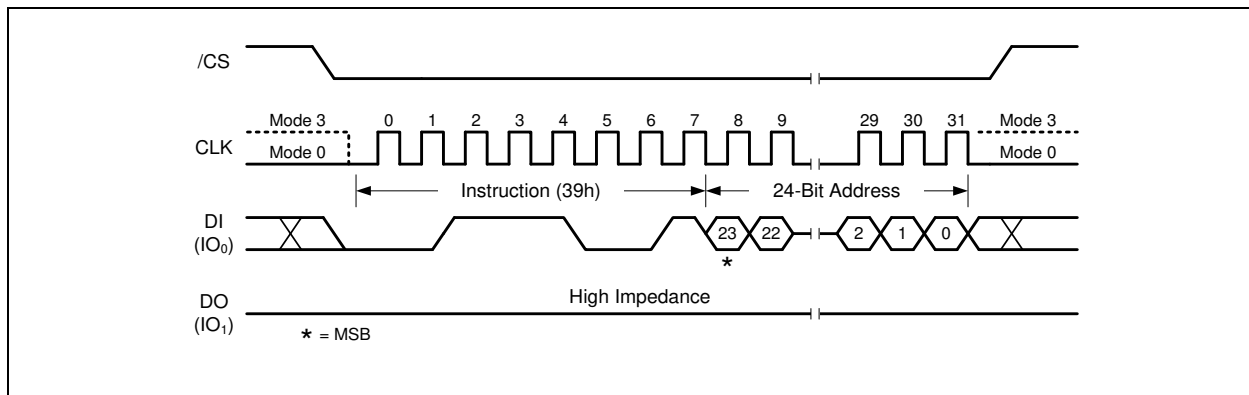

Figure 36. Individual Block Unlock Instruction
To unlock a specific block or sector as illustrated in Figure 36, an Individual Block/Sector Unlock command must be issued by driving /CS low, shifting the instruction code "39h" into the Data Input (DI) pin on the rising edge of CLK, followed by a 24-bit address and then driving /CS high. A Write Enable instruction must be executed before the device will accept the Individual Block/Sector Unlock Instruction (Status Register bit WEL= 1).